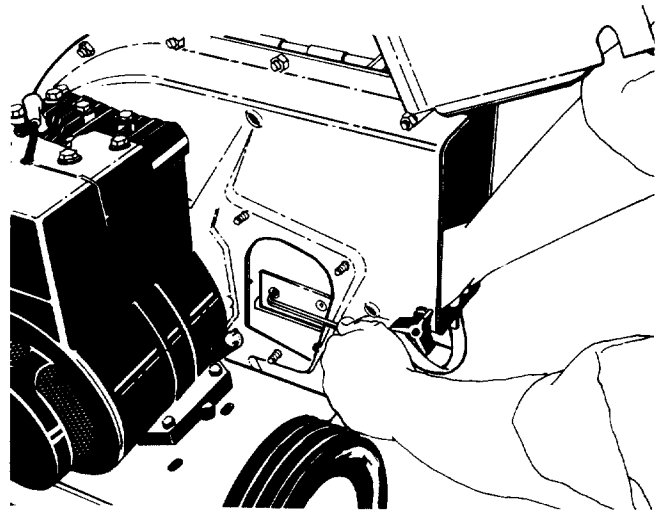

FIGURE 19.
- Rotate the impeller assembly by hand until you locate one of the chipper blades in the chipper chute opening. Remove the blade, using a 3/16" allen wrench on the outside of the blade and 1/2" wrench on the impeller assembly (inside the housing). See figure 19.
Make certain blades are reassembled with the sharp edge facing the direction shown in figure 19 (sharp edge is assembled toward the slotted opening in the impeller assembly).